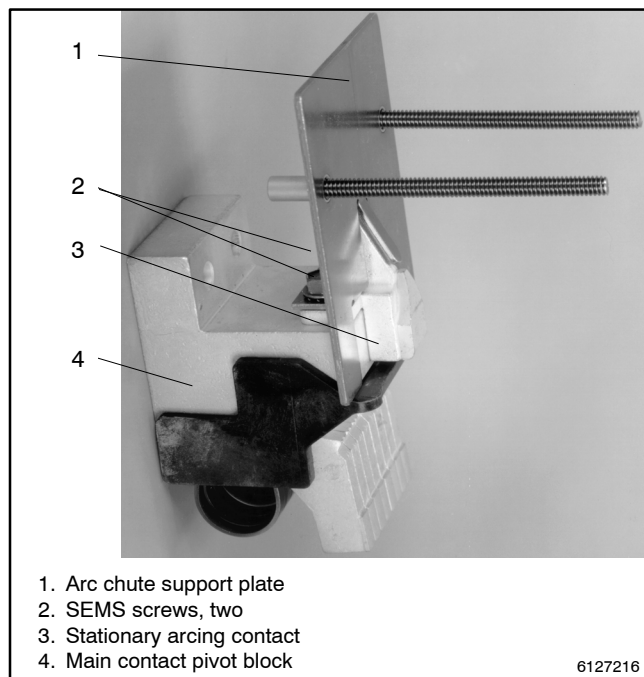

Figure 9-10 Stationary Arcing Contact
3. Install a new stationary arcing contact. Install a new stationary arcing contact and the arc chute support plate onto the main contact pivot block. Use a 3/8 in. socket wrench to secure it with two SEMS screws. Tighten both screws to 7.5 Nm (5.5 ft. lb.) torque. See Figure 9-10.